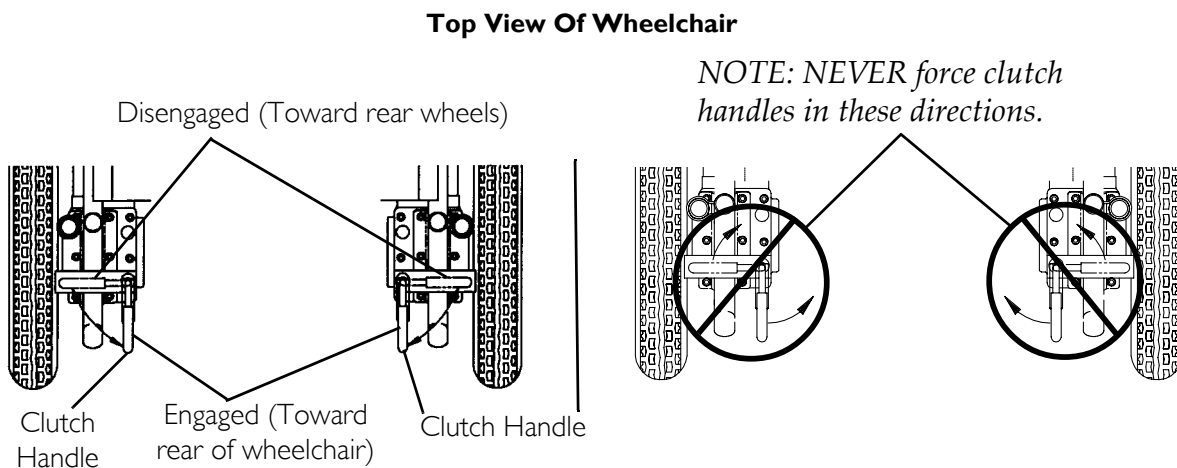

FIGURE 13.1 Engaging/Disengaging the Clutches
NOTE: For this procedure, refer to FIGURE 13.1.
1. Locate the clutch handles on motors as shown in FIGURE 13.1.
If clutch handles are forced to engage in the wrong direction as shown in FIGURE 13.1, the motors will be damaged and will need to be replaced.